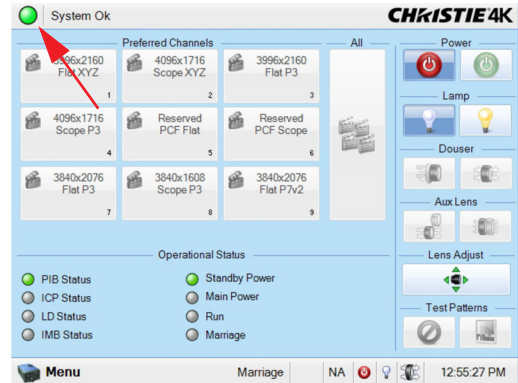

Figure 5-3 TPC LED
2. Check for interlock failures. From the Main panel on the TPC, click the LED in the top, left corner to open the Status window. (Figure 5-3). Alternatively, click the **Menu** button and select Status. With the Status window open, click Interlocks. If a failure is shown, interlock needs to be cleared before the lamp will light.